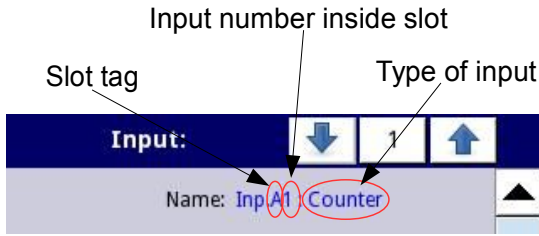

Fig. 7.79. Description of **Name** parameter in **Built-in inputs** menu
A common parameter for all **Built-in inputs** is **Name** – each input has its own unique name and it can not be changed – for description of this parameter see **Fig. 7.79**.
- **Name** - each built-in input already has a name given by the device and the user cannot change it, for the description of the **Name** parameter see **Fig. 7.79**,
- **Name** – each built-in input already has a name given by the device and the user cannot change it, for the description of the **Name** parameter see **Fig. 7.79**.
- **Name** – each built-in input already has a name given by the device and the user cannot change it, for the description of the **Name** parameter see **Fig. 7.79**,